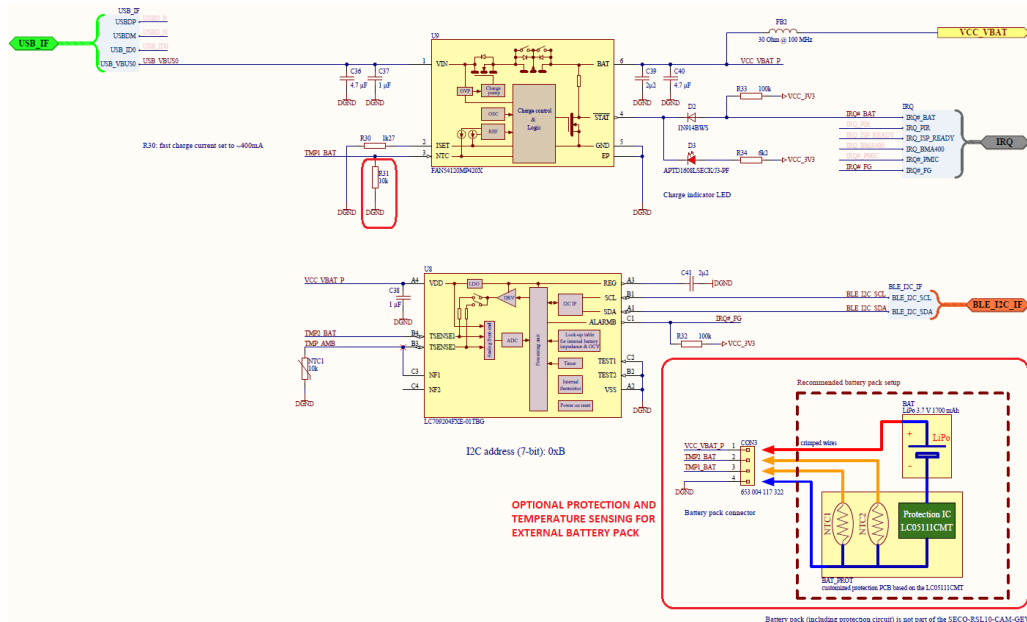

Figure 9. R31 = 10 kΩ to be Removed Once External Li Battery and it's Protection Circuit Connected
1. Remove R31: the 10 kΩ resistor emulates the external NTC sensor. As the board is not delivered with a battery, this dummy resistive load must be connected towards FAN54120 (Figure 9).